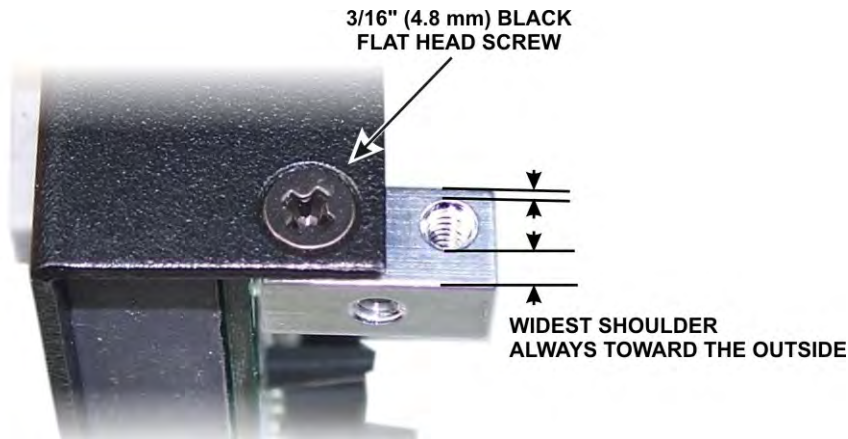

Figure 7. Installing 2D Fasteners.
Mount a 2D fastener at the top of the front panel assembly as shown in Figure 7. Do not use a lock washer. The 2D fasteners must always be oriented so the wide side of the fastener is toward the outside as shown. Tighten the fastener only enough to hold it in place. You will be loosening and adjusting all of the enclosure screws later as you finish the assembly and adjust the fit of all the panels.
- Mount a 2D fastener in the screw holes in the back cover top and bottom flanges just as you did for the front cover (see Figure 7 on page 48), using flat head screws in the counter-sunk holes on the top flange and pan head screws on the bottom flange. Be sure each fastener is oriented correctly with the widest shoulder toward the outside edge of the panel as shown in the figure.
The P3 uses Elecraft's unique 2D fasteners which allow you to remove the top, bottom, front, rear, either side or any combination of panels independently. The fasteners are shown in Figure 7 on page 48.